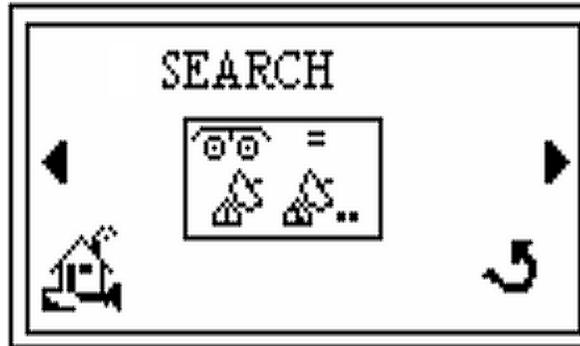

Figure 2-22 Search Screen
5. Press the **▶** and the *Search* screen appears (Figure 2-22).